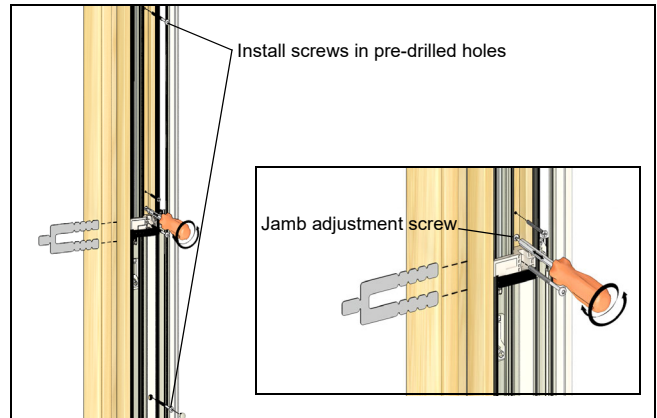

Figure 4
6. Drive #8 x 3" install screws into pre-drilled holes using 2" T20 Torx® driver. See Figure 4.